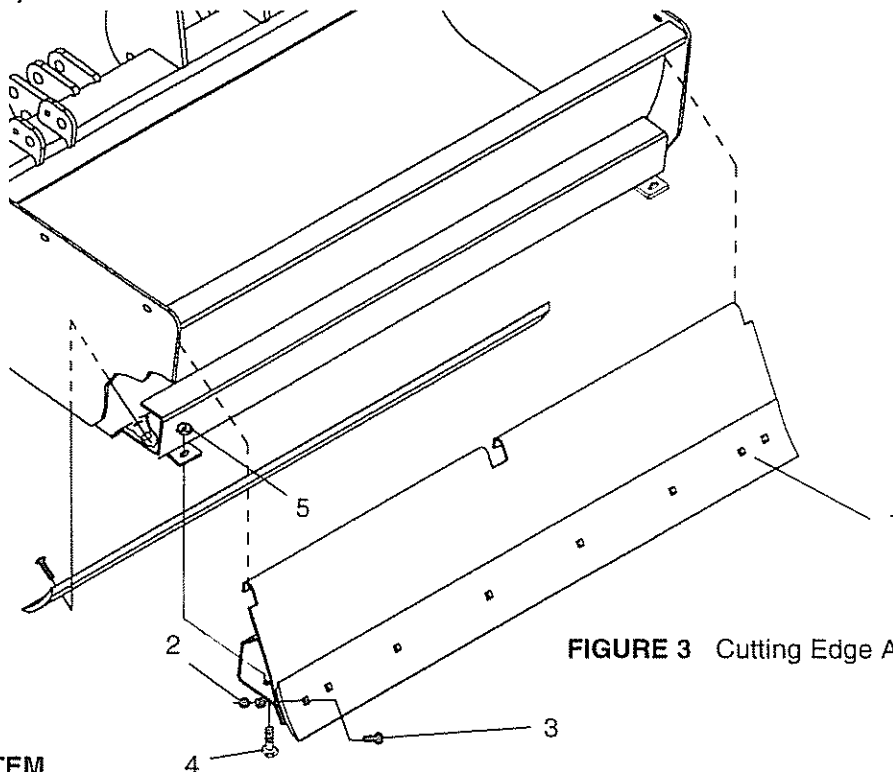

FIGURE 3 Cutting Edge Assembly
Attach the two Cutting Edges (item 1) to the Mainframe Weldment with 16 - 5/8 x 2 plow bolts (item 3) and 16 - 5/8 locknuts (item 2). To Lock Moldboard in place fasten with 2 - 1/2 x 1-1/4 bolts (item 4) and 2 - 1/2 nuts (item 5). (FIGURE 3)